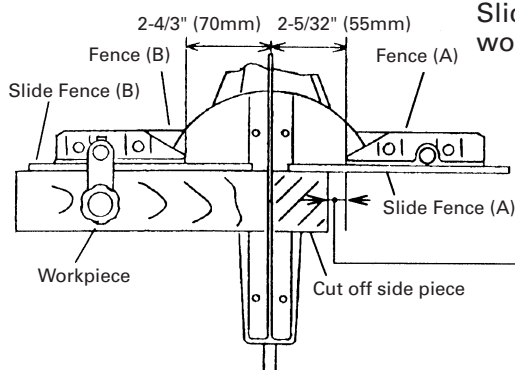

Fig. 19
Slide fence (A) and slide fence (B) are meant to stabilize small workpieces as shown in Fig. 19.